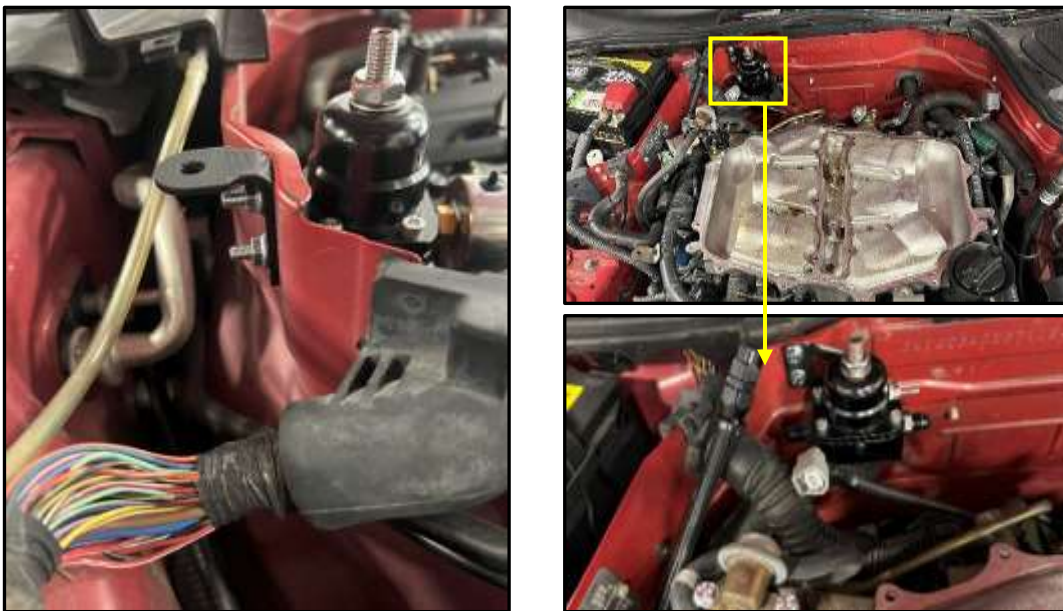

Figure 37
7. Install the FPR Bracket's studs into the (2) two holes on the firewall where the plastic clip was removed from in *Step 3*. Then place the other L-shaped bracket onto the studs and secure with the provided flange nuts. *Figure 37.*